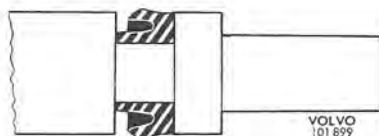

Fig. 5-60. Piston seal
- Inspect the parts. If the cylinder surfaces are scratched or damaged by rust, the valve should be replaced complete. However, if the cylinder surfaces are not damaged, replace only the piston complete. When doing so, check that the seal is facing in the direction shown in the Fig. 5-60.
- Fit the piston (21) complete after having coated it with a brake fluid or a light layer of brake paste. Screw in the plug (1) together with the sealing ring (2). The tightening torque is 10—12 kpm (70—85 lb.ft.).